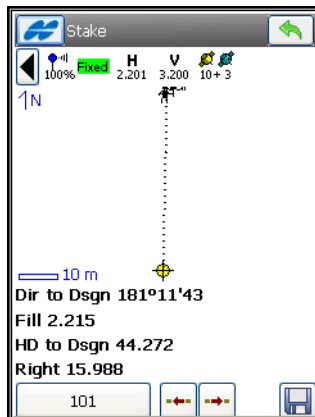

Figure 9-9. Overhead View of Stakeout
- Select *Overhead View* to display the graphical view of the layout of the target and current position (Figure 9-9 on page 9-8).